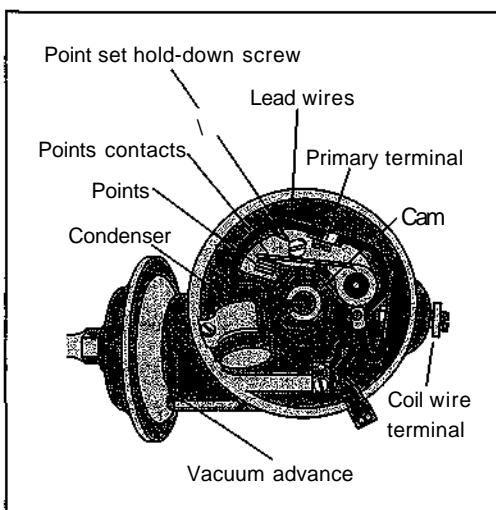

Figure 12-15:
3. Now that your distributor cap is free, remove it *without removing any of the wires that are attached to the cap*. Place it to one side and take a look inside your distributor (see Figure 12-15).